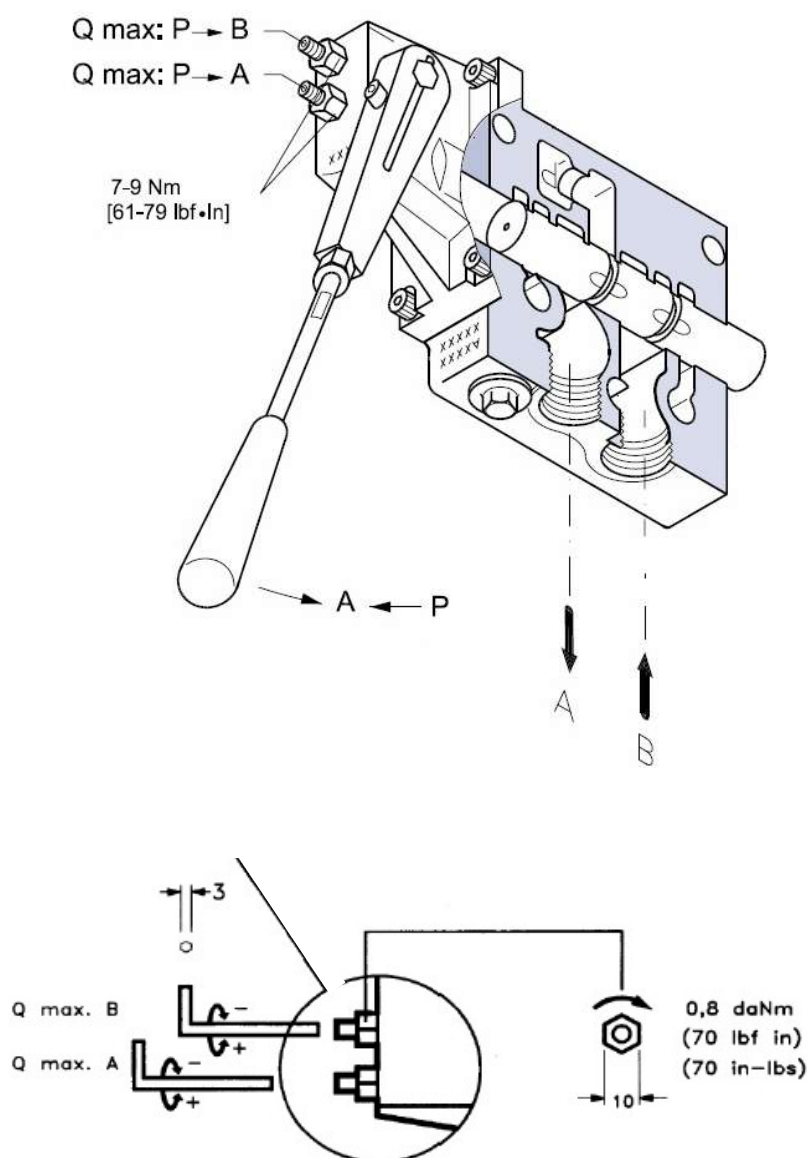

Figure 26
- To adjust it, you must (Figure 26) :